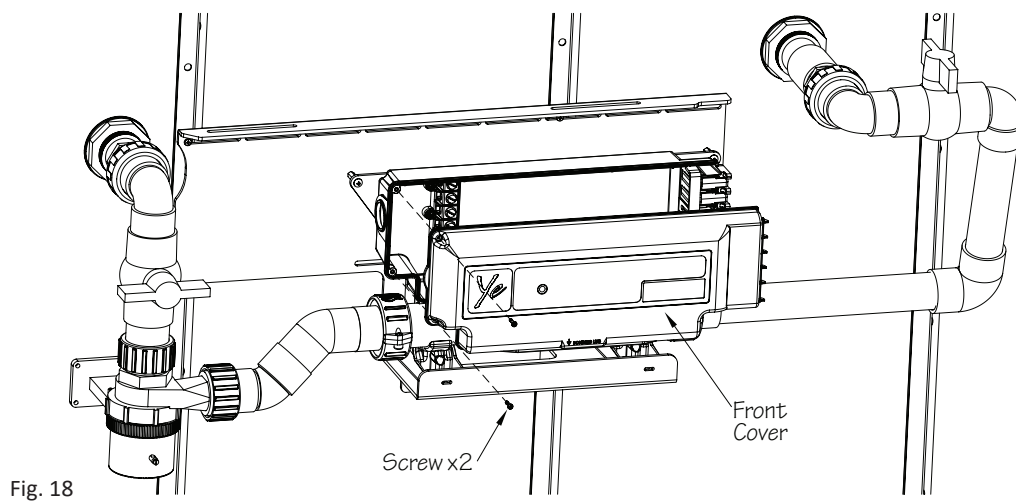

Fig. 16
17. Place the cord for each component into a clamp. Each clamp can accept up to two cords. Reinstall the clamp into its original position (Fig. 16).